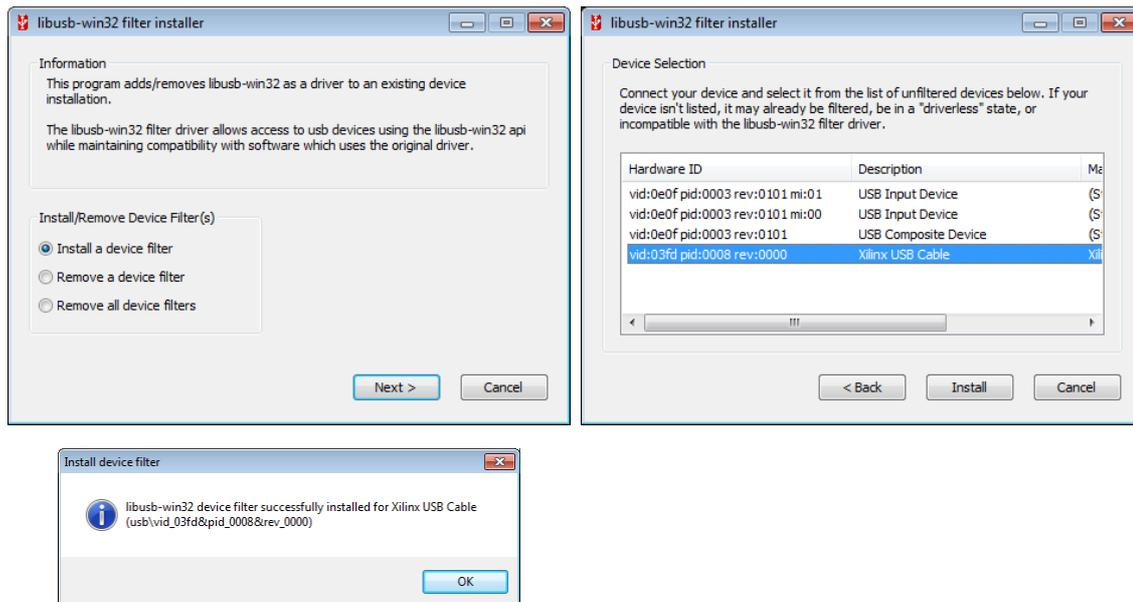

Figure 4.2.
4. At the first dialog, as seen in Figure 4.2, choose **'Install a device filter'** and press **Next**.